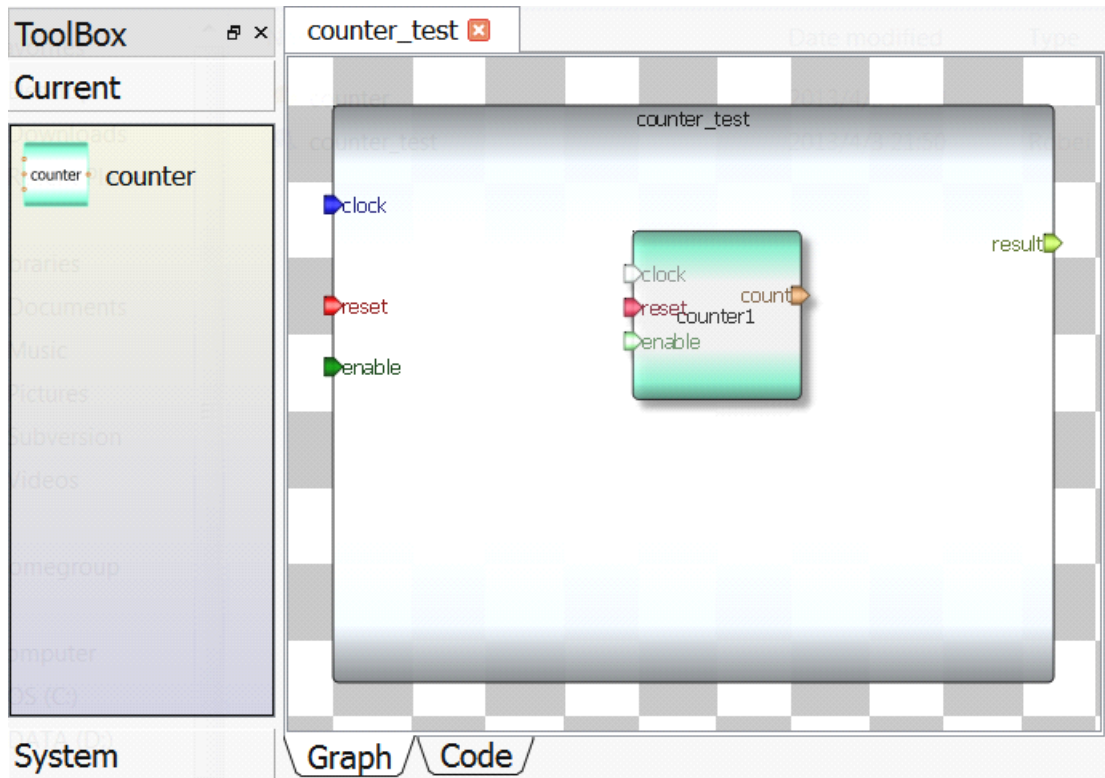

Fig. 9. Add model
- 4) Add model. Under category "Current" in Toolbox, there will be one model show up as fig.9. Click on this model and click on the testbench design, Robei will add this model in automatic.